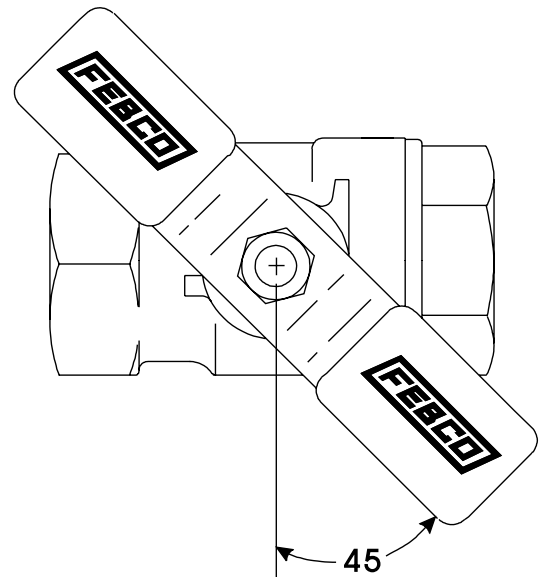

Figure 4
1. After the draining the backflow prevention assembly, position all ball valve shutoffs and test cocks in a half-open, half-closed 45 degree position. (See Figure 4.)